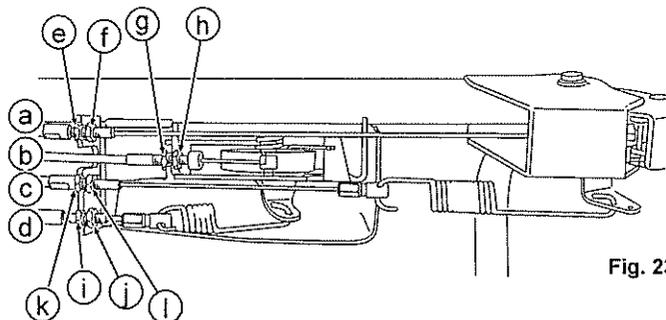

Fig. 23.
8.5.1 Throttle Lever (See Figs. 23 and 24.)
8.5.2 Blade Lever (See Figs. 23 and 25.)
8.5.3 Drive Clutch Lever (See Figs. 23 and 26.)
8.5.4 Gearshift Lever (See Figs. 23 and 27.)